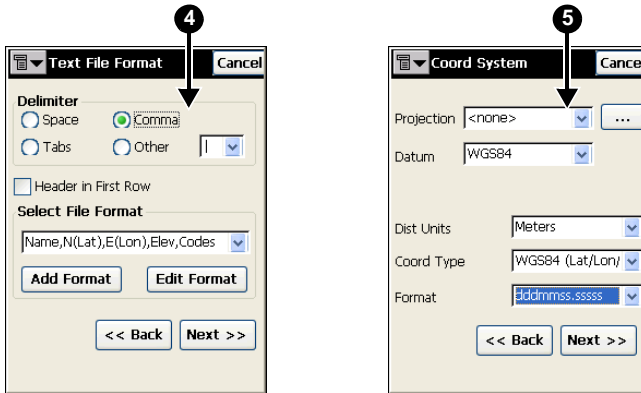

Figure 2-21. Select Text File and Coordinate System Parameters
- For text files, select the delimiter and file format (Figure 2-21). Press **Next**.
- Select coordinate system parameters (Figure 2-21). Press **Next**.